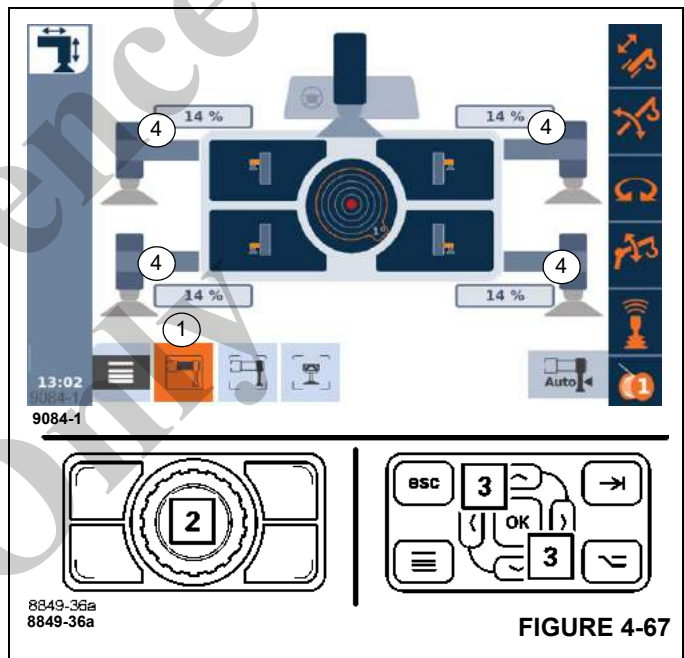

FIGURE 4-67
Depending on the equipment of the truck crane, the outrigger span (Figure 4-67) is shown in meters, feet or percent (%).
- Select and confirm the symbol (1), (Figure 4-67).
- Use the jog dial buttons (2), (Figure 4-67) or (3), (Figure 4-67) to select the rigged outrigger span.
- Press the extend/retract button to position the outriggers to the desired position (4), (Figure 4-67).